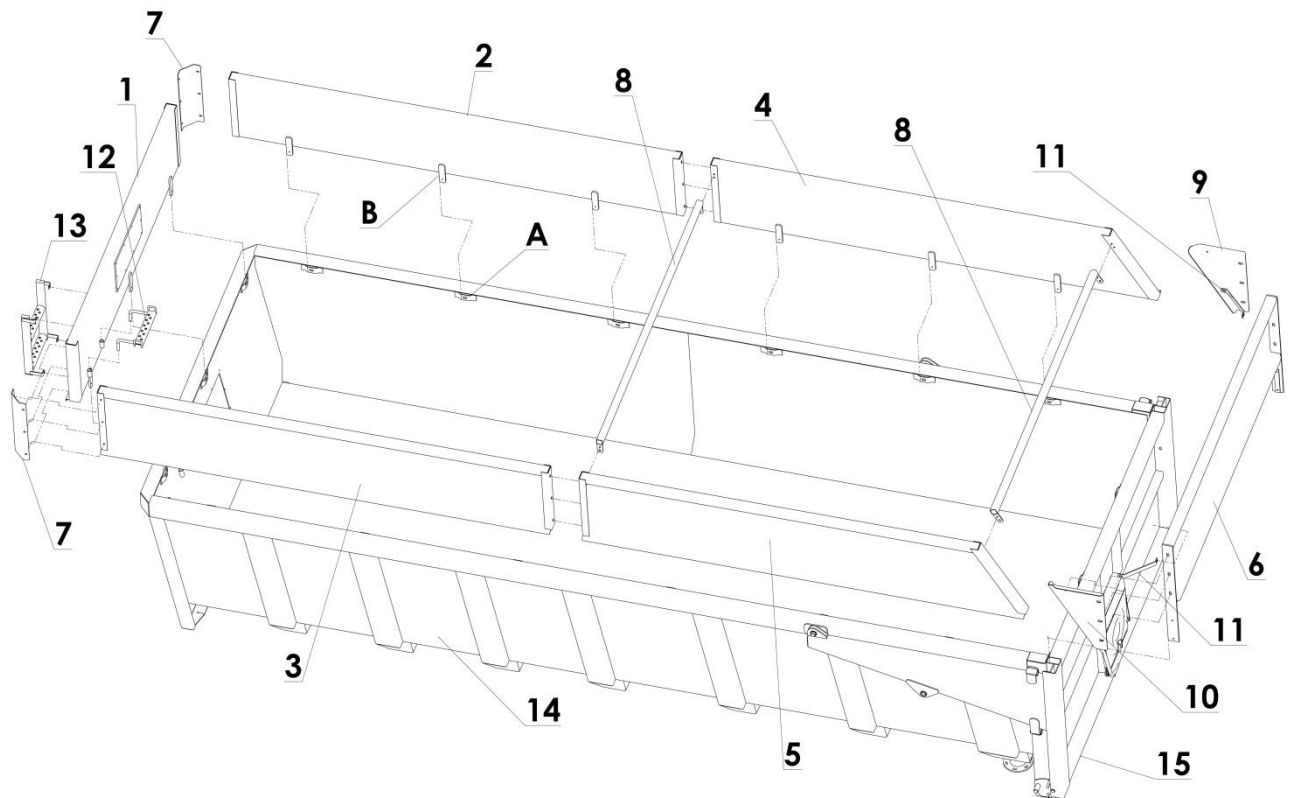

Figure 26. Extensions of the loading crate
On the inside of the walls of the load box and rear doors, there are extension pockets (A) (fig. 26), and the extensions have brackets (B) that should be inserted into the pockets during installation.